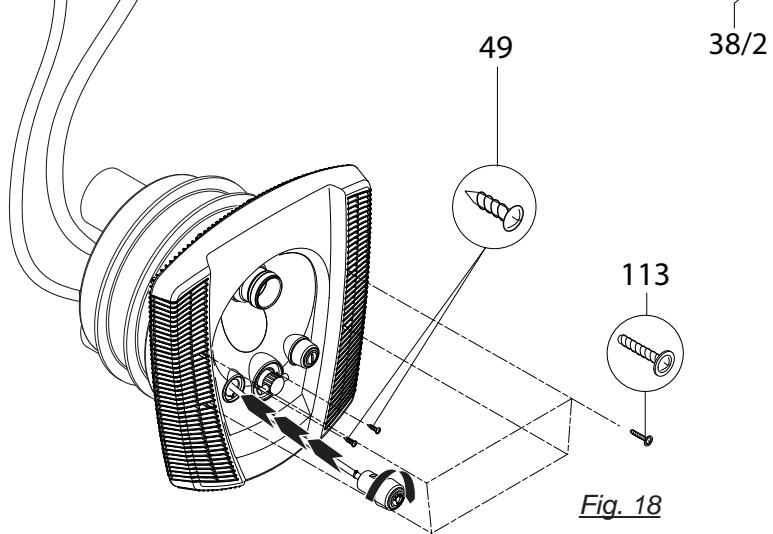

Fig. 18
Insert the two pneumatic buttons through the trim (93) in the nozzle housing and turn clockwise to lock. (Fig. 18)